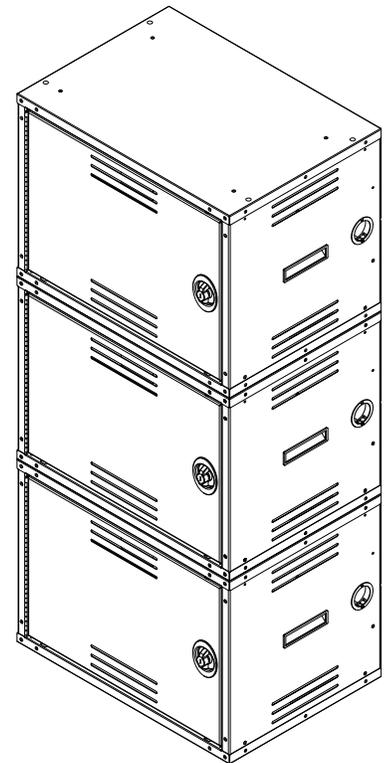

Figure 2
*Suggested fasteners: (4) 1/4-20 x 5/8" PHM screws and (4) locknuts.*
3. Tighten fasteners securely. **Figure 2.**
**Note: The 3/8" mounting holes located on the back panel are for stabilizing the unit(s) (up to 3 high only) to a wall and are 16" on-center to match most wall construction stud spacing. Figure 2. Be sure fasteners are anchored securely to studs or other solid portion of the wall.**